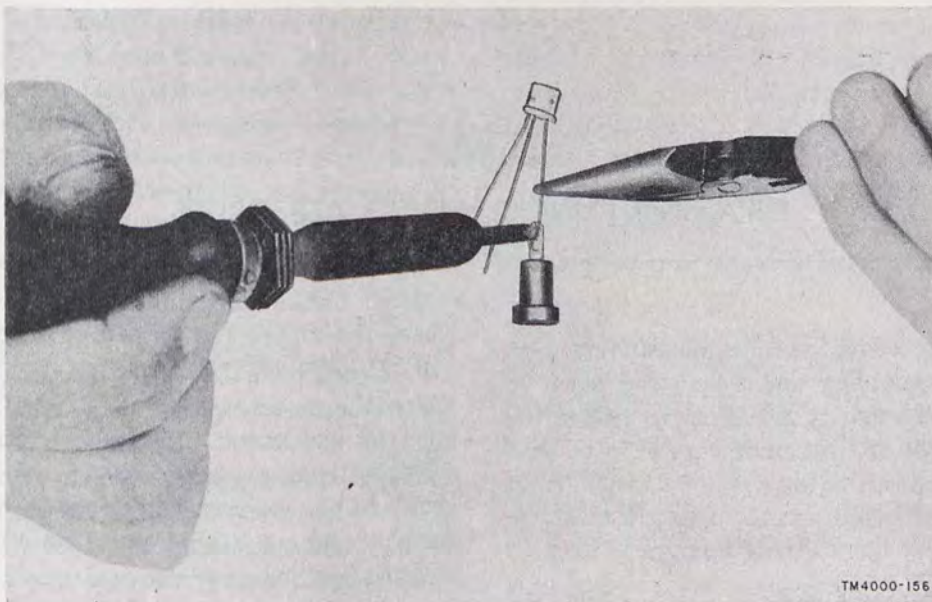

Figure 120. Use of pliers as a heat sink.
a. Transistors are extremely sensitive to heat and will be destroyed if subjected to excessive temperatures for even short periods of time. For this reason the soldering techniques used in transistor circuits are very important. Whenever possible use a low-powered soldering iron, preferably from 25 to 50 watts. In addition a heat sink of some sort should be provided between the point of contact of the soldering iron and the transistor. This is best accomplished by grasping the transistor lead being soldered with long-nosed pliers just above the point of soldering iron contact (fig. 120). The pliers then dissipate any excess heat before it is conducted to the transistor. The application of a